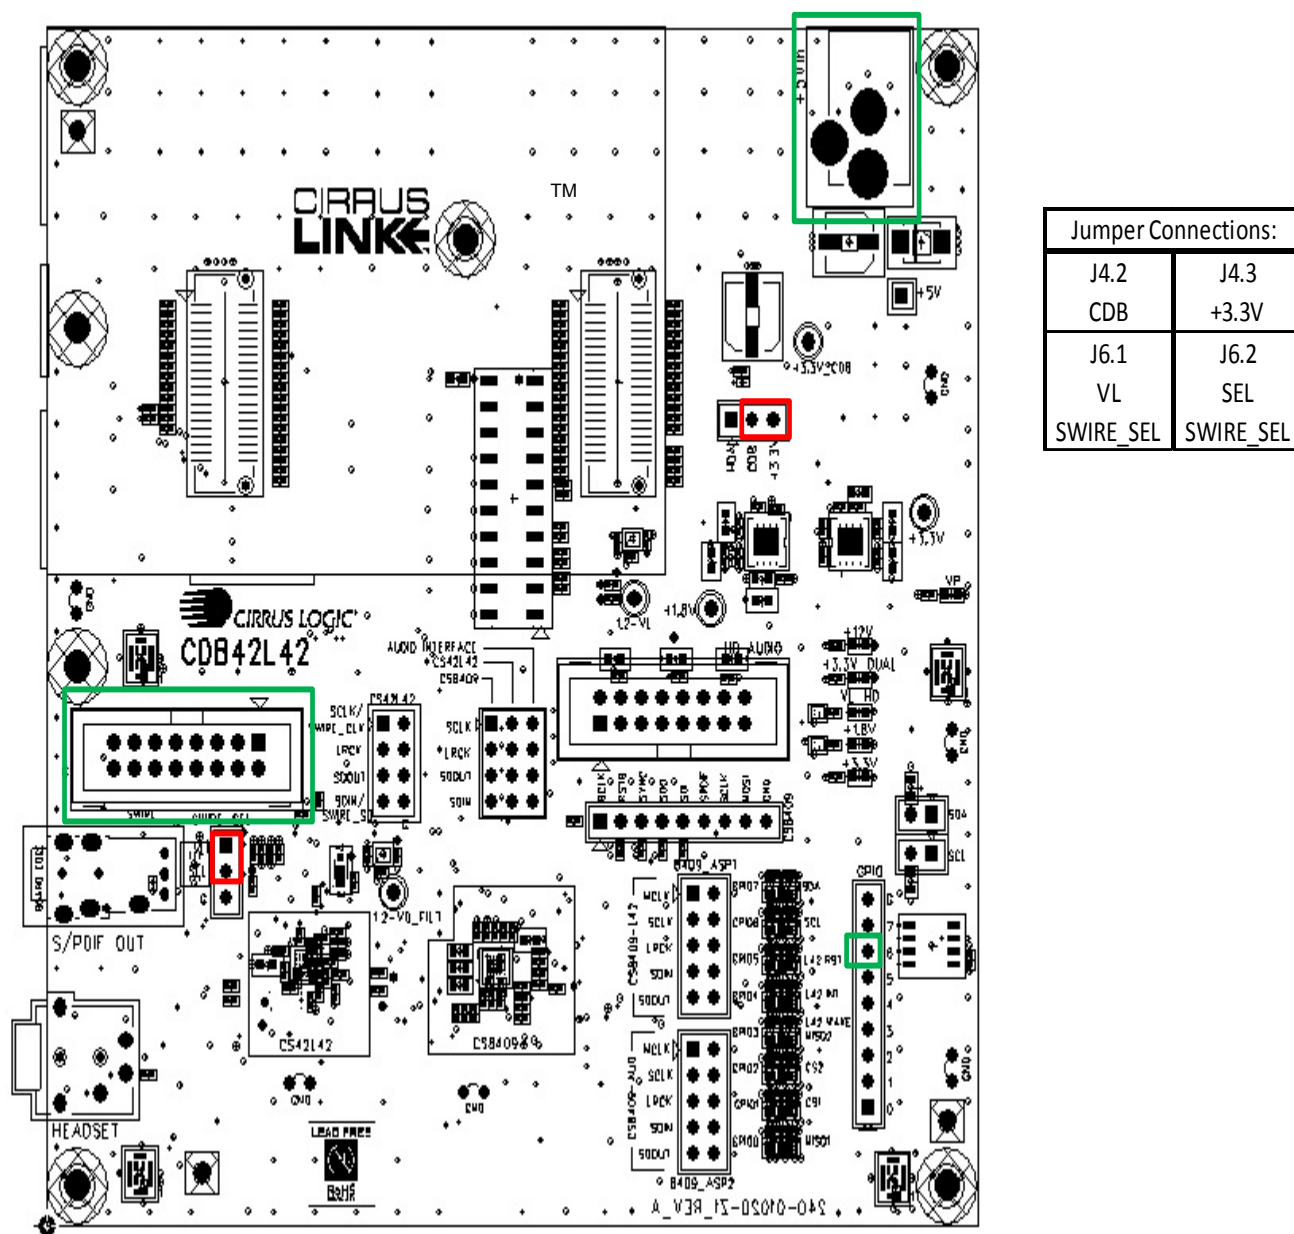

Figure 2-3. Jumper Settings (SoundWire Mode)
2. Set jumpers J6 and J4 as shown by the red indicators in Fig. 2-3. See Table 4-1. Jumpers must be removed from J3.